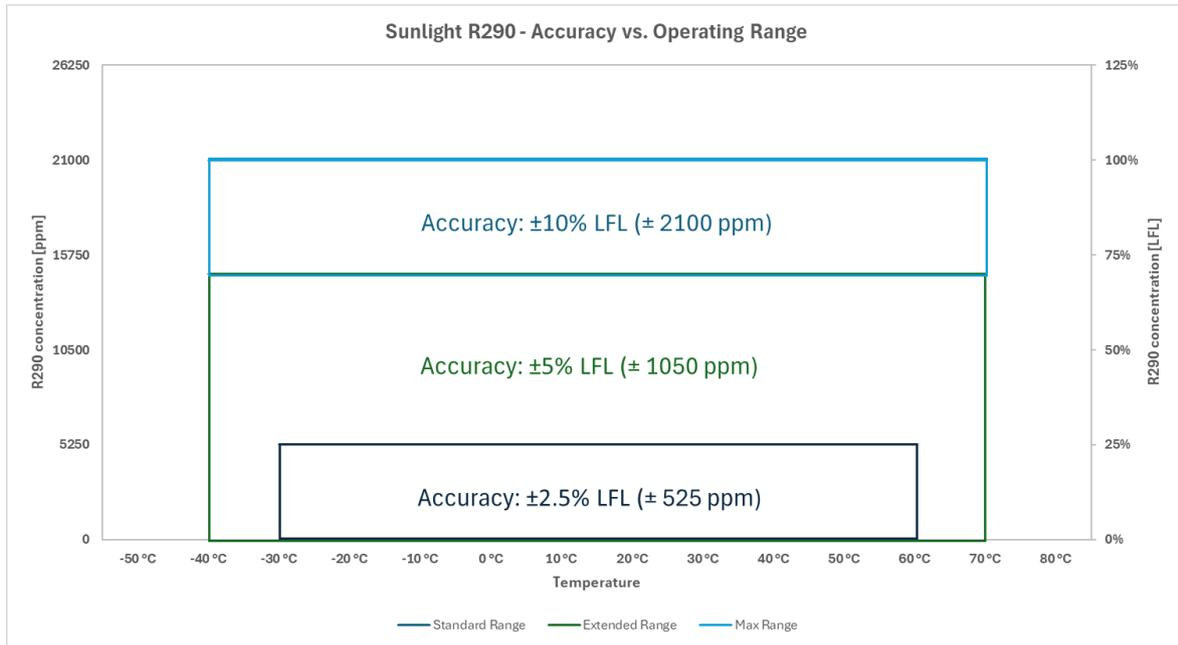

Figure 3 Accuracy over complete operating range
- Note 2: Standard measurement range 0–25% LFL, Extended measurement range 25–70% LFL. The accuracy over the complete measurement range is specified in Figure 3